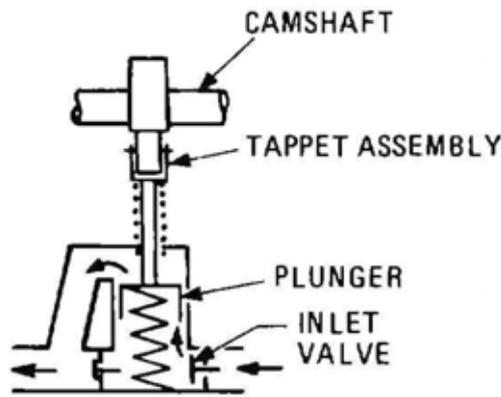
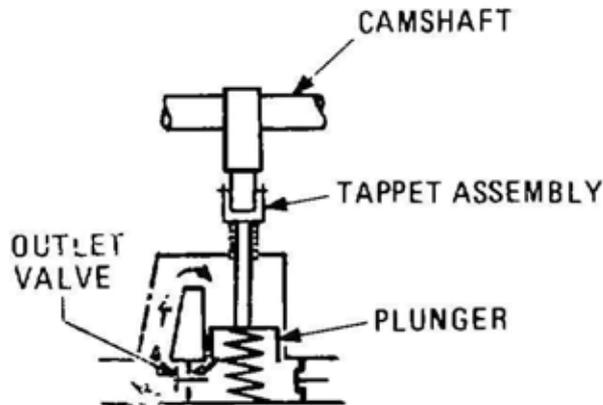

Figure 12 Pumping and Filling
Figure 13 Fuel Flows from Below the Plunger to Above the Plunger
33. The fuel supply pump is mounted directly on the injection pump housing and is driven by a lobe on the injection pump camshaft. The pump is plunger actuated and self regulating, and will build up pressure only to a predetermined point. As the camshaft lobe allows the plunger to be forced by its spring towards the camshaft, the suction created by the plunger movement opens the inlet valve and permits fuel to enter the plunger spring chamber (Figure 12). Then, as the cam lobe drives the plunger against its spring, the fuel in the plunger spring chamber is forced by the plunger through the outlet valve around to the chamber in back of the plunger created by its forward movement. As the camshaft continues to rotate, it allows the plunger spring, which is now under compression, to press the plunger backward again, thus forcing the fuel at the back of the plunger out into the fuel line through the secondary filter to the injection pump (Figure 13). At the same time, the plunger is again creating a suction effect, which allows additional fuel to flow through the inlet valve into the plunger spring chamber. When pressure at the back of the plunger is equal to the force exerted by the plunger spring, the plunger remains stationary and no further pumping action takes place until the pressure drops (Figure 14).